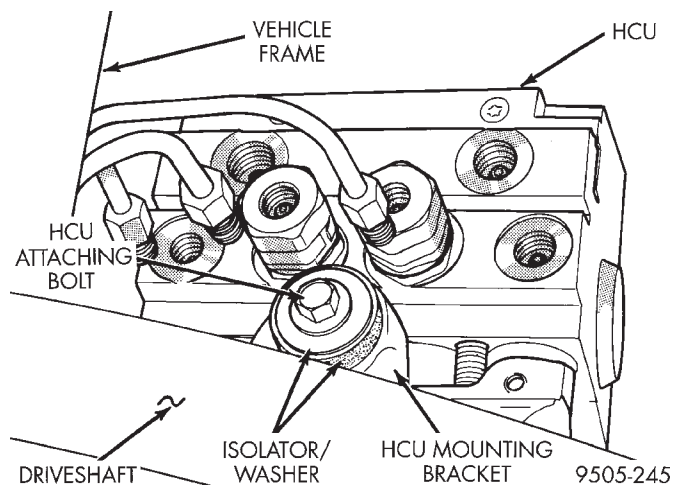

Fig. 21 Front Attachment Of HCU To Mounting Bracket
(12) Remove bolt (Fig. 21) attaching the front of the HCU to its mounting bracket.
(3) Install mounting isolator, washer and attaching bolt, (Fig. 21) mounting the front of the HCU to the